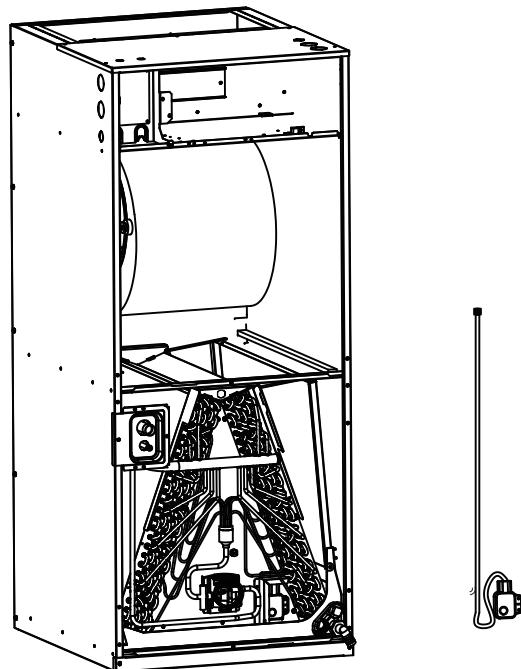

Figure 3.5 Steps to replacing the leak detection sensor
1. Remove the screws and the front panel, and disconnect the plug of leak detection sensor wire from the circuit board (Figure 3.5, Step 1).
2. Remove the screws and pull out the leak detection sensor with the wire (Figure 3.5, Step 2)